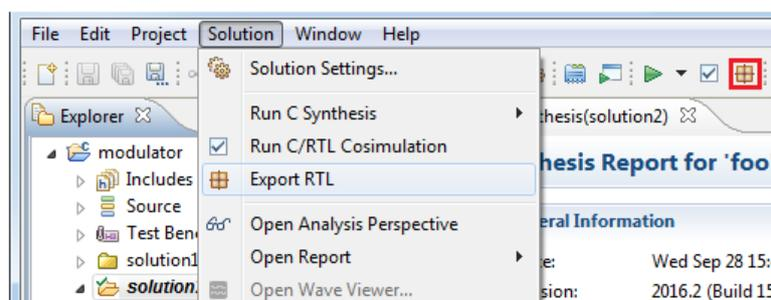

Figure 2.61: Export RTL option
Step 1. Open the **Export RTL** dialog box by clicking the **Export RTL** toolbar button or choosing the **Solution -> Export RTL** option from the main Vivado HLS menu, see Figure 2.61.